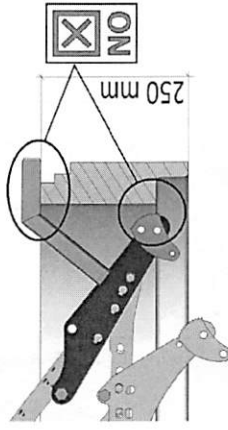

Fig. 1
- The gripping of manhole rings (total height 250 mm/10") WITHOUT above named accessory (4400.0079) is prohibited (→ see Fig. 1).
Fig. 1 shows a manhole ring with a minimum total height of 250 mm (10") without "adaptor kit for SVZ-uni" (4400.0079).